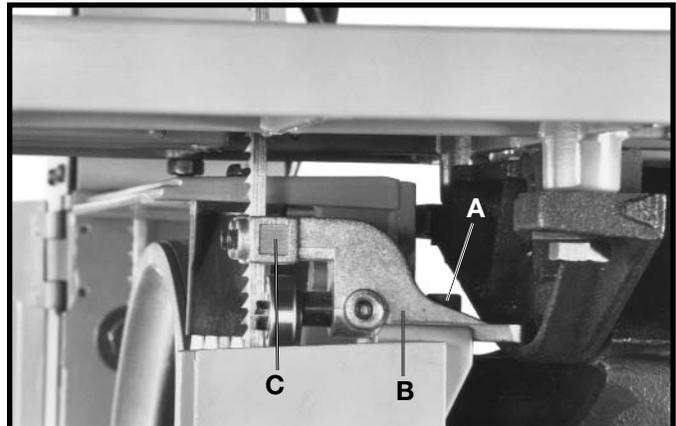

Fig. 23
1. Loosen screw (A) Fig. 23, and move the guide bracket (B) in or out until the front edge of the guides (C) are just behind the blade "gullets" (bottom of saw teeth) while making sure the guides are flat with the blade then tighten screw (A).